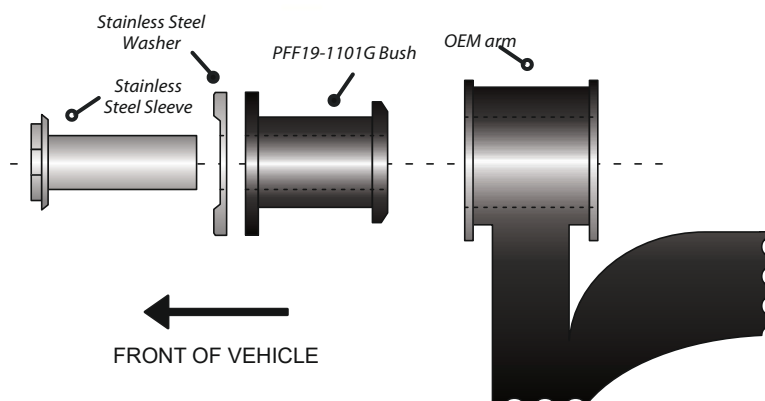

Figure 1
4. Press the bush into the arm in the orientation shown in Figure 1.
6. Assemble the sleeve and washer as in Figure 1, and push them into the bush in the orientation shown in Figure 2. This is the configuration for most negative camber.